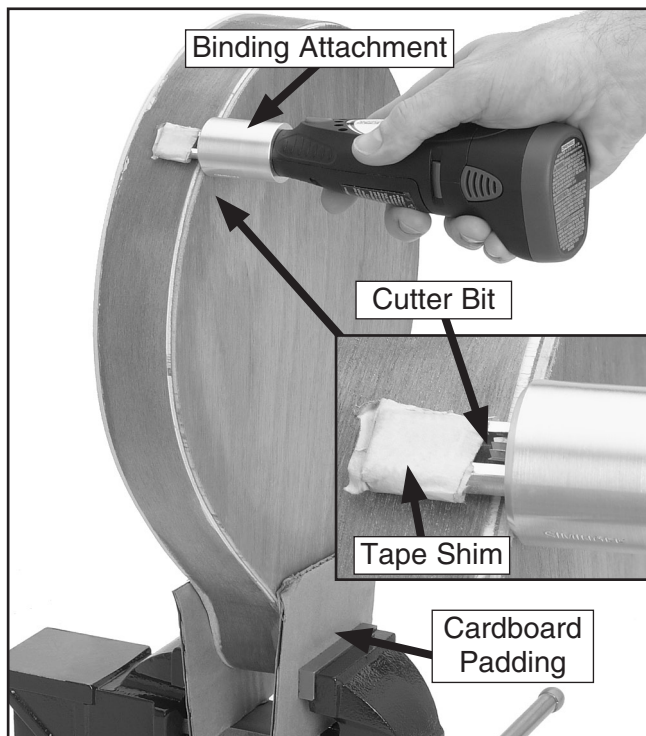

Figure 12. Routing the binding slot using a binding router tool with tape shim.
3. Cut a slot all the way around the top and bottom of the mandolin (see **Figure 12**) slightly less than the binding height and width. The binding included with the kit measures $\frac{15}{64}$ " high by $\frac{1}{16}$ " wide.